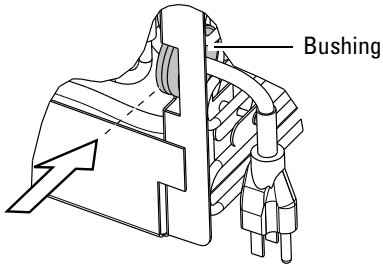

Figure 19: Secure AC Power Cord (Full length of line cord not depicted)
6. Route the AC power cord through the refrigeration module and secure it in place with the bushing (Figure 19).